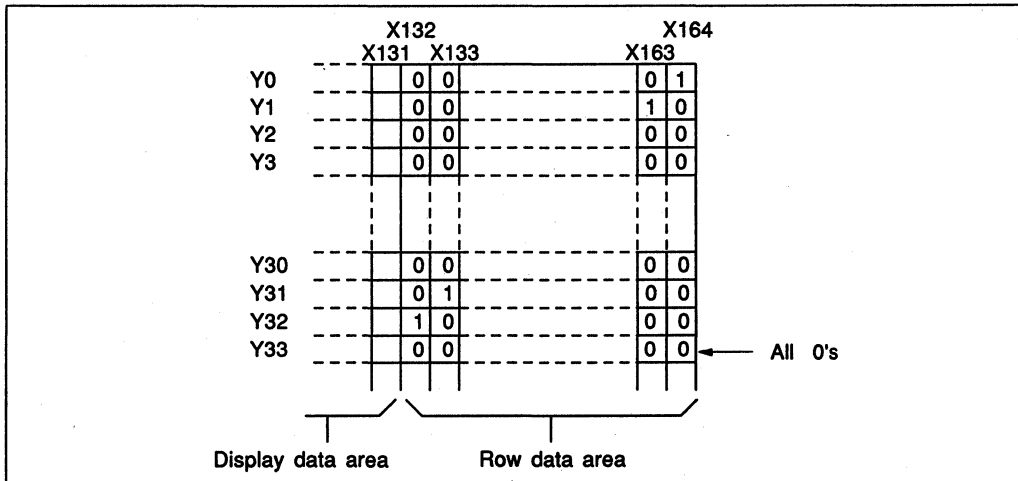

Figure 35 How to Set Row Data for 33-Row Output from the Right Side
- (1) After busy time is terminated, an X or Y
- (2) Although the maximum output rows is 33 when 33-row-output mode from the right side is specified, any multiplexing duty ratio can be specified. Therefore, row output data sufficient to fill the specified duty must be input in the Y direction. Figure 35 shows how to set row data in the case of 1/34 multiplexing duty ratio. In this case, 0s must be set in Y33 since data for the 34th row (Y33) are not output.
- (3) Do not set the C select register's CLN bits to 0 for the M signal of C-type waveform.